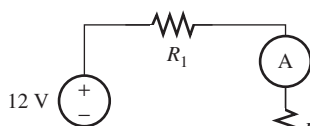

FIGURE P14.13 Circuit for Problem 14.13.
- 14.13** (A)* In Figure P14.13, determine the error percentage of the current reading due to the insertion of an ammeter. $R_1 = 3\text{ k}\Omega$, $R_2 = 5\text{ k}\Omega$, and the internal resistance of the ammeter is $R_g = 50\ \Omega$.